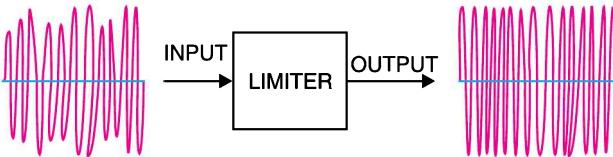

Fig. 16.22
3. **Limiter Stage.** The output from IF stage is fed to the limiter. This circuit is an IF amplifier tuned to 10.7 MHz but its main function is to remove AM interference from the FM signal. Fig. 16.22 shows how the limiter removes AM interference from the FM signal. The input is an FM signal, but it has different amplitude levels because of AM interference has been added. However, the limiter circuit keeps the output level constant for different input levels.